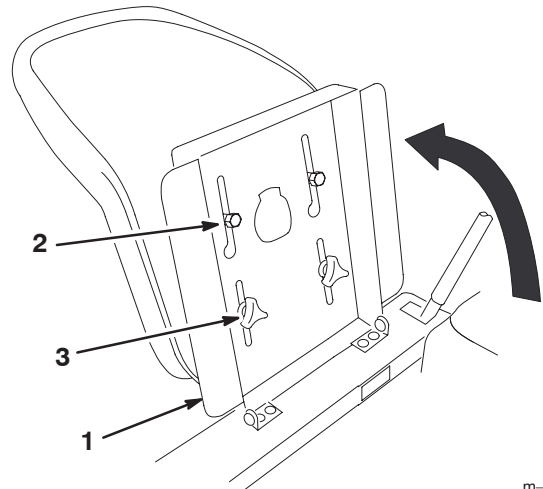

Figure 5
2. Raise the seat support on the machine (Fig. 5).
3. Slide the shoulder bolts on the bottom of the seat into the slots in the seat support (Fig. 5).
4. Secure the seat to the seat support with the flat washers (5/16 inch) and knobs (Fig. 5).